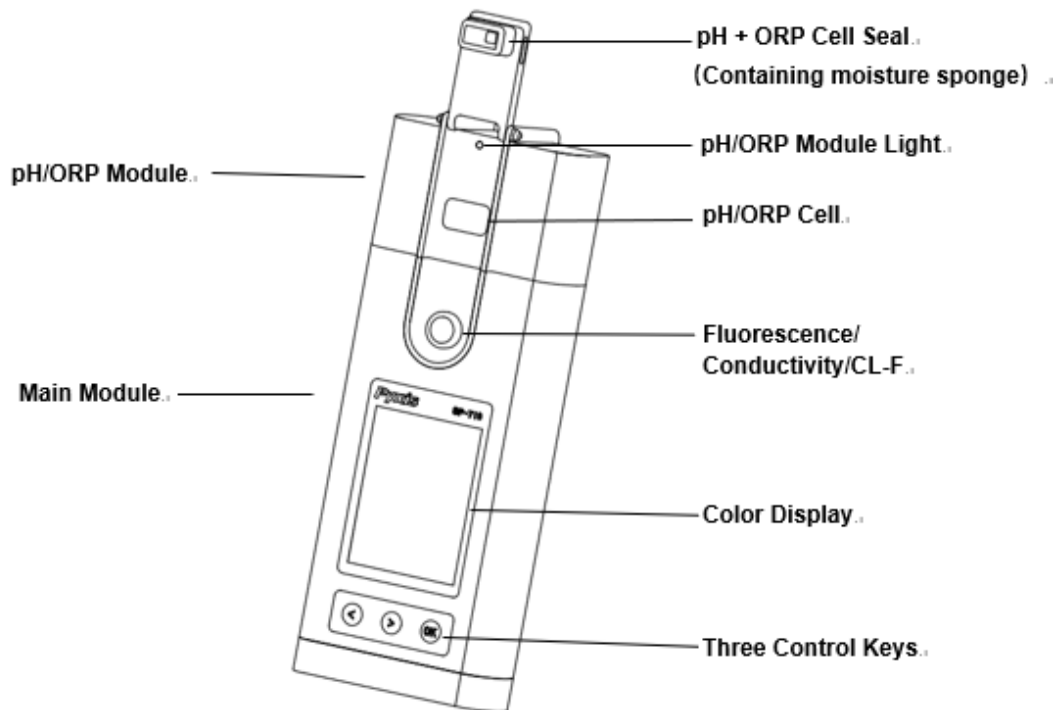

Figure 3.
The SP-710B has three control keys, as shown in Figure 3. The left (<), right (>), and ok (OK) keys are used to launch actions indicated on the LCD display directly above the keys. The labels above the keys indicate the function associated with each key and functions can be changed in different operation modes.